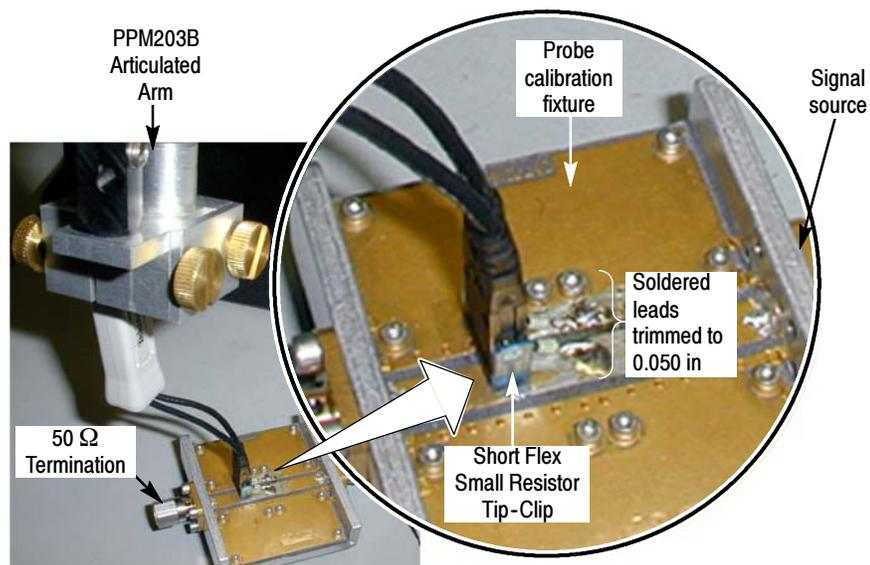

Figure 14: Probe Calibration Fixture and P7380 Probe
3. Attach the probe to the probe calibration fixture (see Figure 14).
10. Connect the probe input to the probe calibration fixture as shown in Figure 14 on page 34.